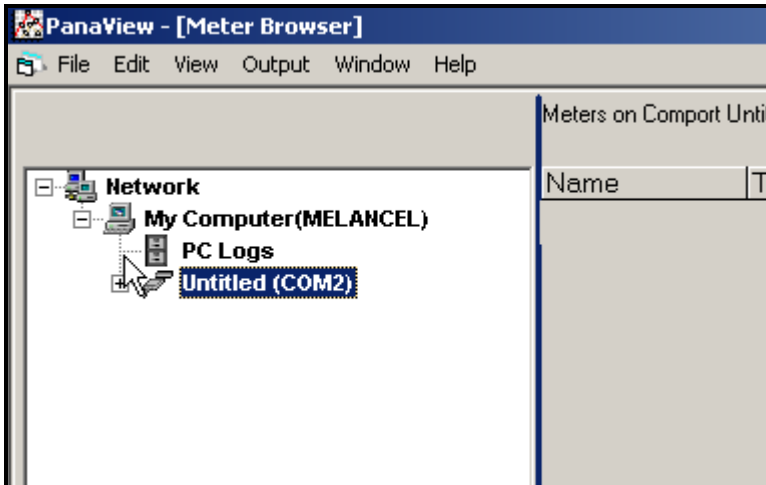

Figure 34: The New Serial Port Branch
1. Notice in Figure 34 that the network tree now has the newly configured communication port listed.